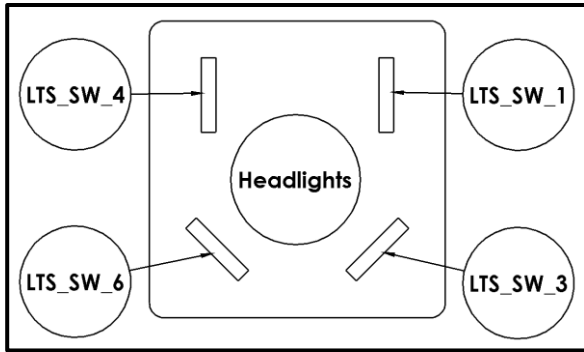
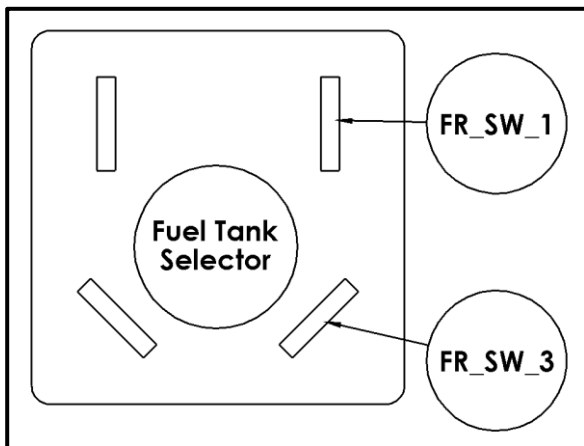

Figure 3 Headlight Toggle Switch Labels
Figure 4 Fuel Tank Selector Switch Labels
5. Reconnect the spade terminals as shown for the toggle switch of interest. [Figure 3, Figure 4]